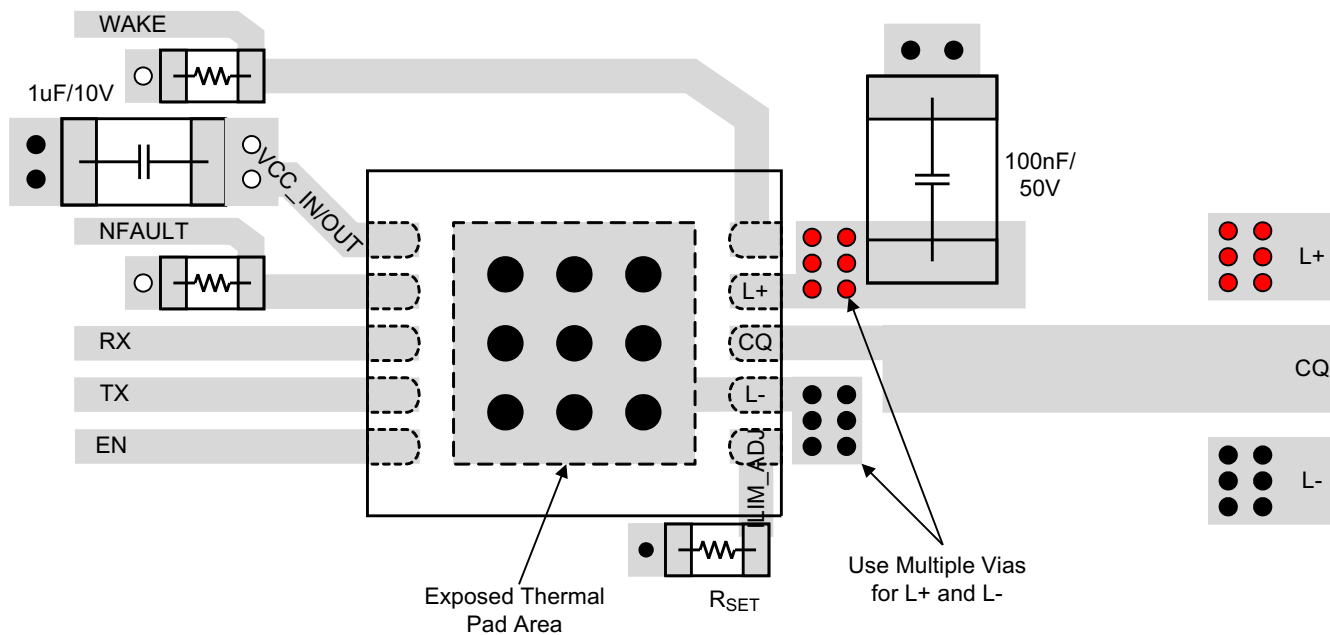

图 11-1. Layout Example
- The optimum placement of the capacitor is closest to the transceiver's L+ and L- terminals to reduce supply drops during large supply current loads. See Figure 11-1 for a PCB layout example.